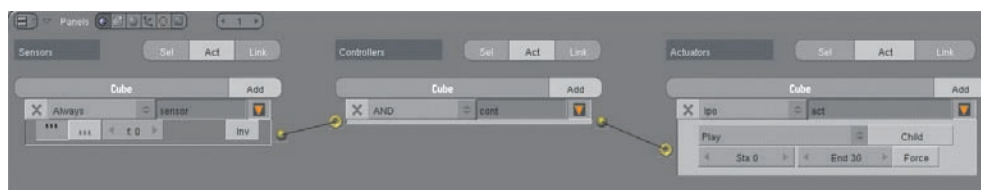

Figure 6.20 Sensor, controller, and Ipo actuator setup
3. In the Logic Buttons area, with the cube selected, set up a sensor, controller, and Ipo actuator as in Figure 6.20. In the setup, I have the sensor selected as Always, and the Ipo actuator type is Play. The Start and End frames of the Ipo to be played, in the Sta and End fields, are 0 and 30. When you press P, the cube will go through the motion of the active Ipo from frame 0 to 30 repeatedly. If you use a different sensor type, such as a keyboard action sensor, the Ipo motion will be triggered when you press a key. Also, if you change the Start and End frames of the Ipo actuator, a different (potentially longer or shorter) section of the Ipo will be played. Other Ipo actuator types can also be selected besides Play. (See if you can guess what the Ping Pong and Flipper types do.)